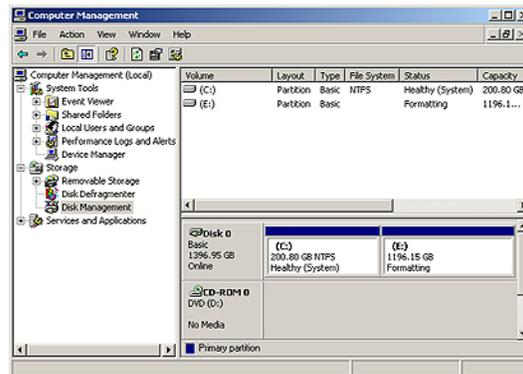

Figure 2-66
36) Click the **Next** button, then select the **Perform a Quick Format** option (ensure the File System type is set to **NTFS**), and then click the **OK** button. The **Computer Management** window will reflect your newly formatted partition (Figure 2-66).